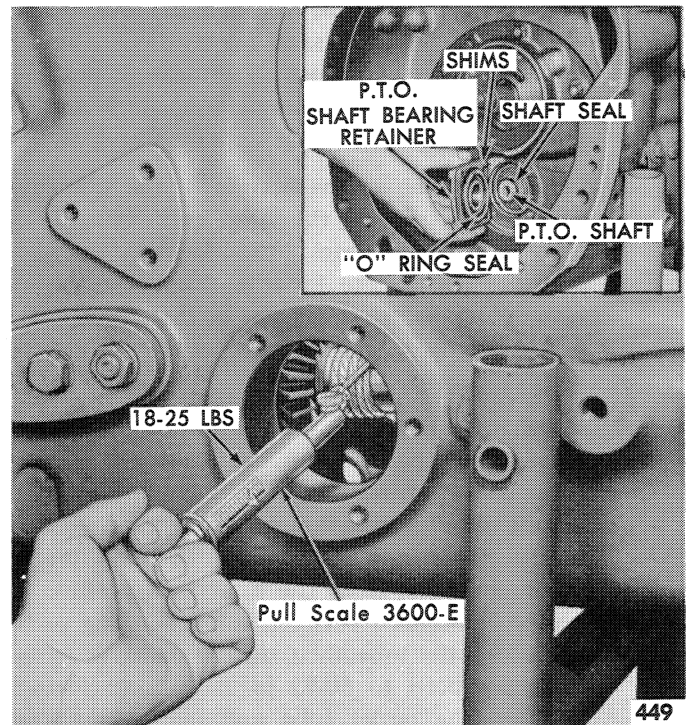

Figure 133—Checking P.T.O. Shaft Preload
1. On Model 81 transmissions, install the P.T.O. bearing retainer and tighten the four attaching bolts to 12-15 ft. lbs. Remove the right side cover, wrap a piece of cord around the shaft spacer, and attach it to a pull scale, as shown in Figure 133. The preload should be 18-25 lbs. when checked with Pull Scale 3600-E. Preload can be adjusted by varying the size and number of shims under the bearing retainer, as shown in the insert, Figure 133. Install the side cover and the front P.T.O. clutch hydraulic fluid line, shown in Figure 132.
2. On Model 71 transmissions, install the P.T.O. shaft cover and tighten the four attaching bolts to 12-15 ft. lbs. Remove the right side cover, wrap a piece of cord around the P.T.O. shaft and attach it to Pull Scale 3600-E, as shown in Figure 133. With the rear seal removed, the preload should be 18-25 lbs. when checked with the pull scale. Preload can be adjusted by varying the size and number of shims under the shaft cover, as shown in the insert, Figure 133. Install the P.T.O. shaft rear seal. Install the side cover and the P.T.O. clutch hydraulic fluid line, shown in Figure 132.